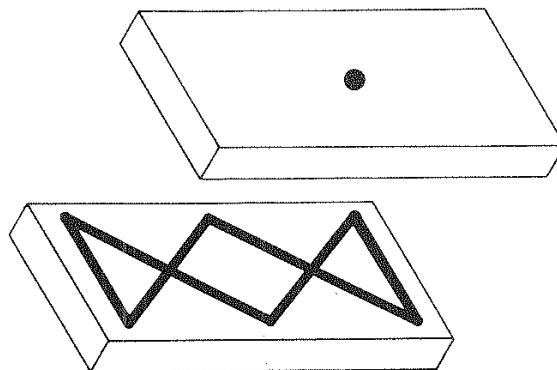

Figure 9.17 Oil grooves in guide bearing
- Guide bearings (**Figure 9.17**) can be lubricated by cutting a pattern of grooves in the sliding members.